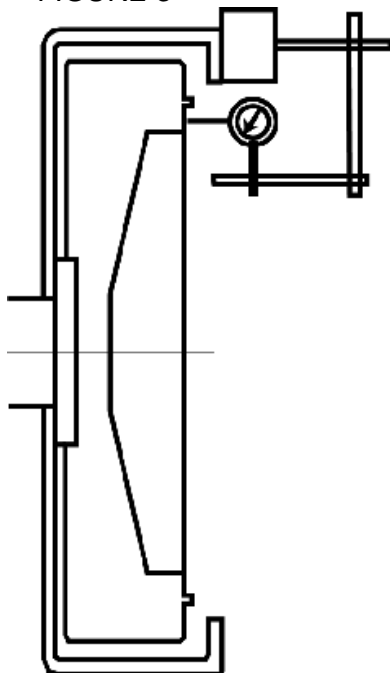

FIGURE 5
4.1.3 Check flywheel face runout. (see Figure 5)